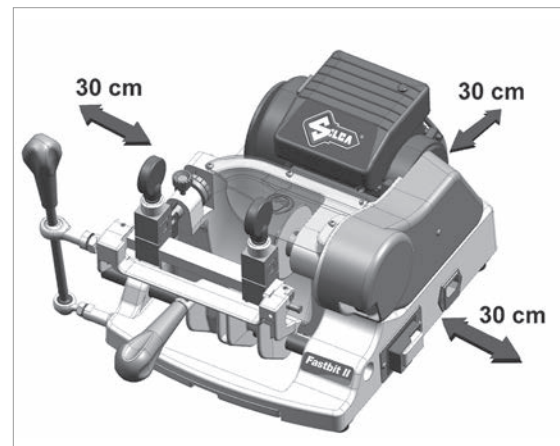

Fig. 9
- it is important to leave clearance of at least 30 cm behind the machine and on each side to ensure proper ventilation (Fig. 9).